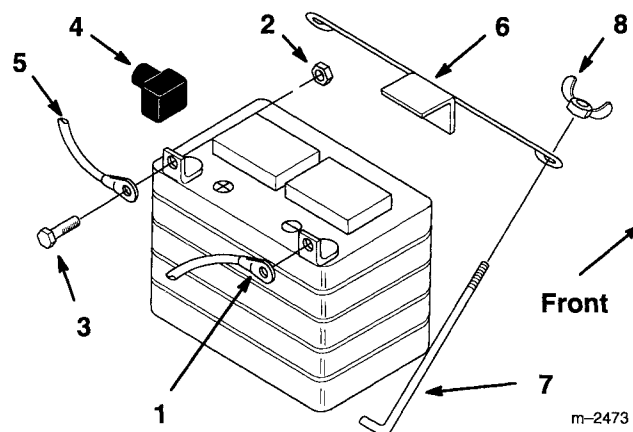

Figure 37
3. Disconnect the negative (black) ground cable from the battery post (Fig. 37).
4. Lift the rubber cover up on the positive cable. Disconnect the positive (red cover) cable from the battery post (Fig. 37).
5. Remove the battery hold down rods (Fig. 37). Lift battery from tractor
6. Install the battery into the chassis (Fig. 37).
7. Secure battery in chassis with hold down rods and wing nuts (Fig. 37).
8. Using the bolt and locknut, connect the positive (red cover) cable to the positive (+) battery post (Fig. 37). Slide the rubber cover over the battery post.
9. Using the bolt and locknut, connect the negative (black) cable to the negative (-) battery post (Fig. 37).